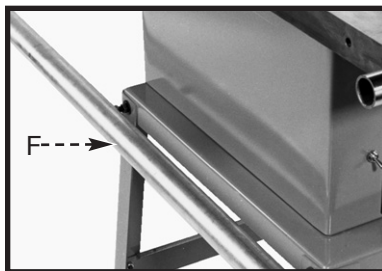

Fig. 7
6. Attach the lower guide rail (F) Fig. 7 to the two holes in the stand using the two flat washers and nuts that were removed from the lower rail assembly in **STEP 3**.
**NOTE:** Position the end of the rail (F) Fig. 7 with the stud closest to the end toward the front.
7. Tighten the four nuts that attach the guide rail (F) Fig. 7 to the stand. Leave a space of 1-1/4" between the guide rail and the stand. Final adjustments will be made later.